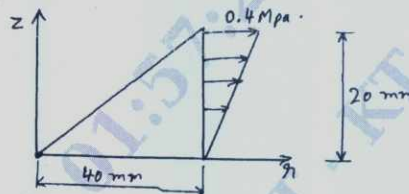

Fig Q9(b)
b. Evaluate the nodal forces used to replace the linearly varying surface traction shown in Fig Q9(b)